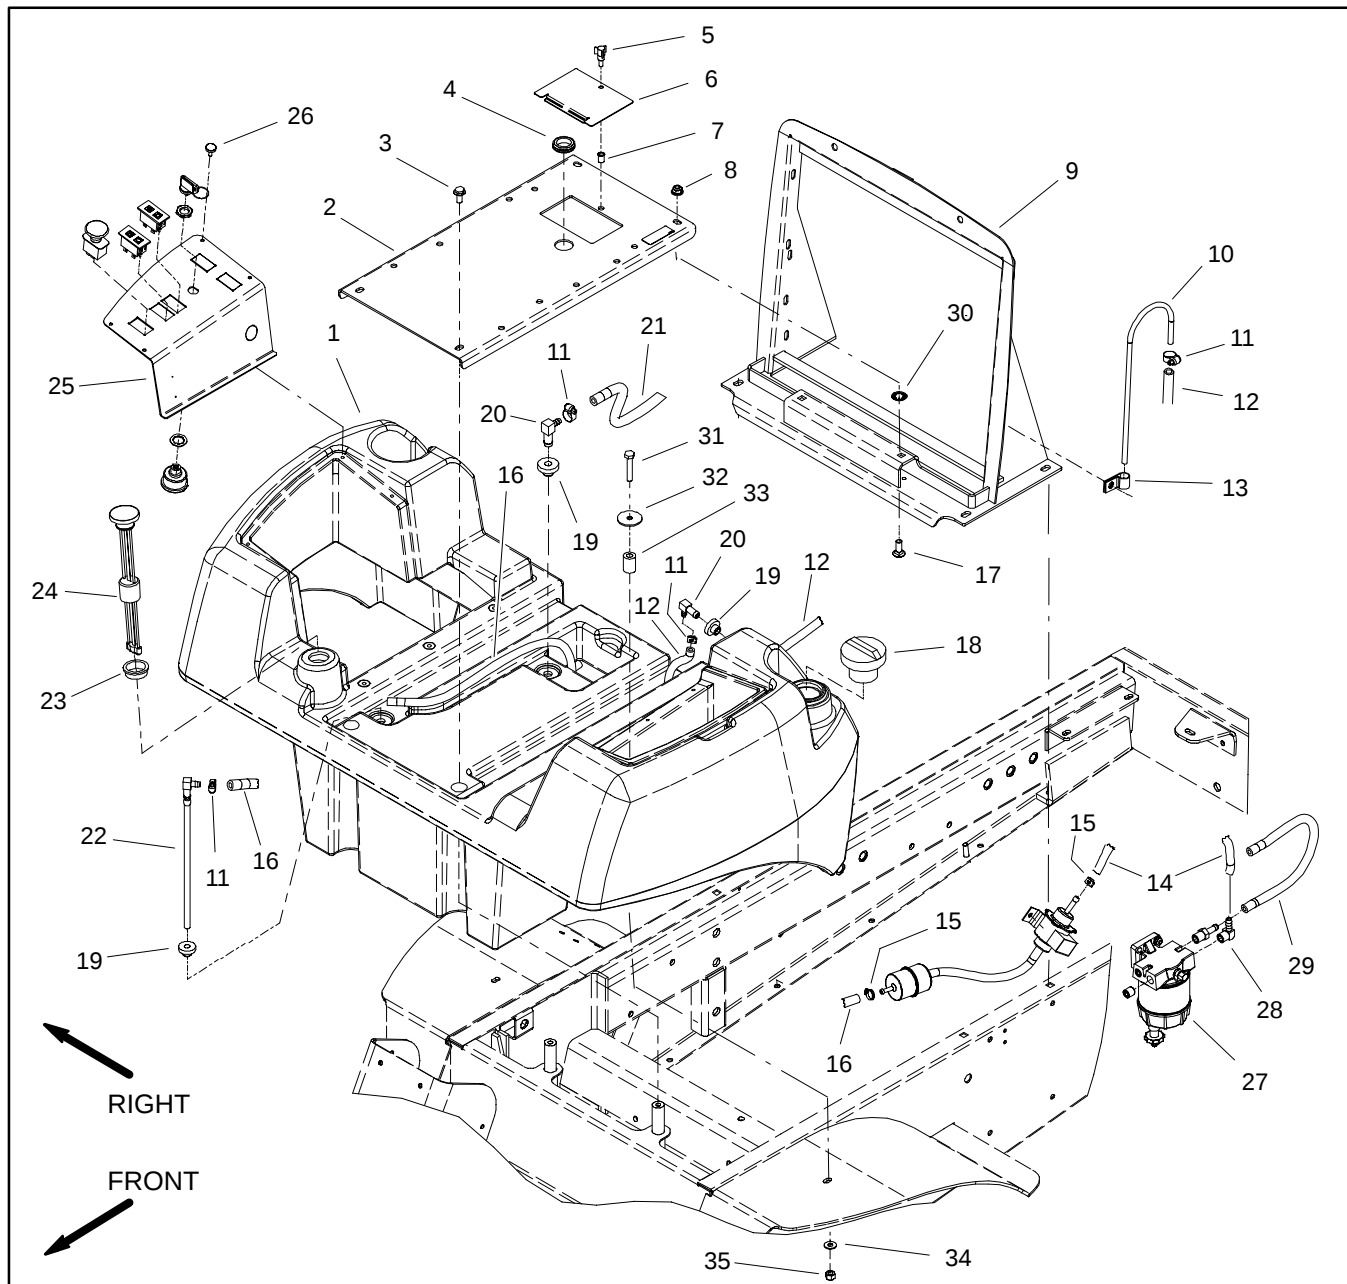
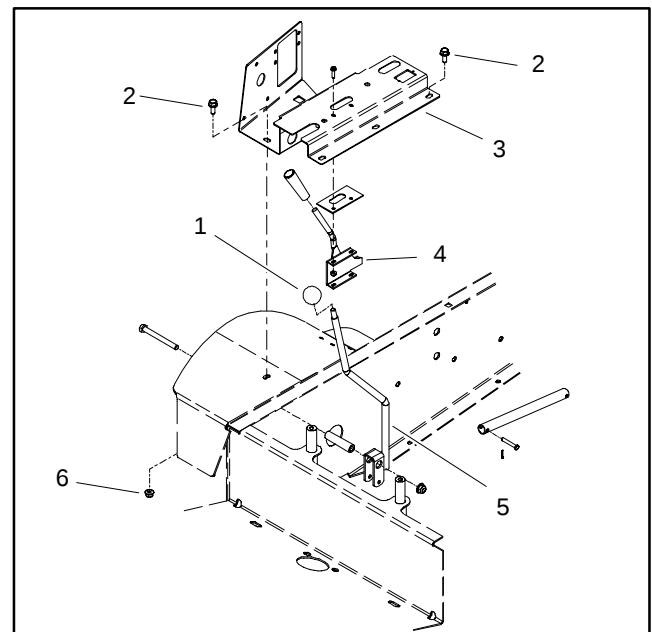

Figure 2
Figure 3
Fuel Tank Removal (Fig. 2)
4. Remove seat plate (item 2) from machine.
6. Remove flange head screws and flange nut that secure lower control panel to machine (Fig. 3).
7. Remove lock nut (item 35) and flat washer (item 34) from left fender.
9. Disconnect fuel hoses from standpipe (item 22) and elbow fittings (item 20) on the top of the fuel tank.
10. Remove fuel tank using Figure 2 as a guide.
Fuel Tank Installation (Fig. 2)
1. Install fuel tank to frame using Figure 2 as a guide.
2. Connect fuel hoses to standpipe (item 22) and elbow fittings (item 20) on the top of the fuel tank. Secure fuel hoses with hose clamps.
3. Secure lower control panel to machine with flange head screws and flange nut (Fig. 3).
4. Secure tank to left fender with flat washer (item 34) and lock nut (item 35).